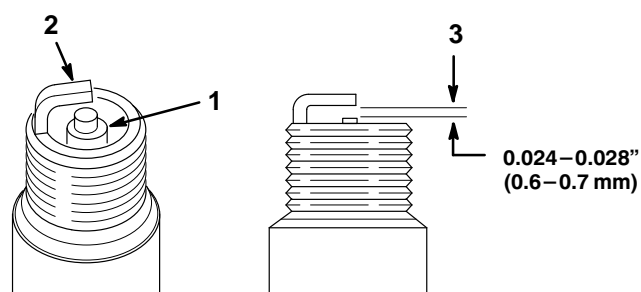

Figure 31
1. Look at the center of the spark plug(s) (Fig. 31). If you see light brown or gray on the insulator, the engine is operating properly. A black coating on the insulator usually means the air cleaner is dirty.
2. Check the gap between the center and side electrodes (Fig. 31). Bend the side electrode (Fig. 31) if the gap is not correct.